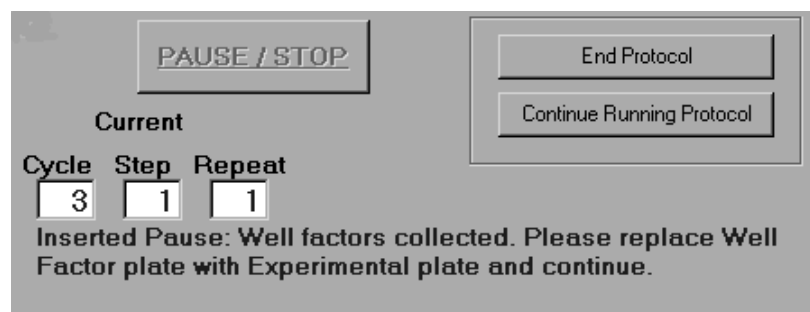

Fig. 2.6.
10. Well factors from the Experimental Plate will be collected automatically after you click Begin Run and the protocol will execute immediately afterwards without any user intervention. If you are using a Well Factor Plate, the protocol will begin execution and after about five minutes, the external well factors will be collected and the iCycler will go into Pause mode. During the Pause, remove the well factor plate and replace it with the experimental plate and then click **Continue Running Protocol**. (See Figure 2.6)
- After well factors are calculated the iCycler pauses. Remove the well factor plate and insert the PCR reaction plate and click **Continue Running Protocol**. (Figure 2.6)
- After you name the data file, the iCycler will briefly cycle the well factor plate, collect optical data and calculate well factors. After the factors are calculated, the iCycler enters pause mode. (See Figure 2.6.)